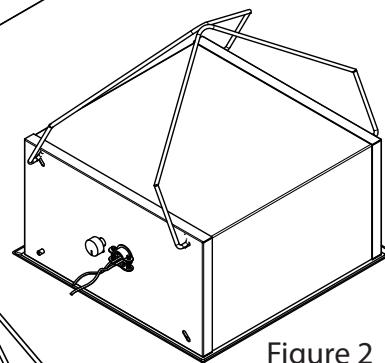

Figure 2
- B) Downward-firing Operation: Relocate hangers to bottom of assembly. (Figure 2)